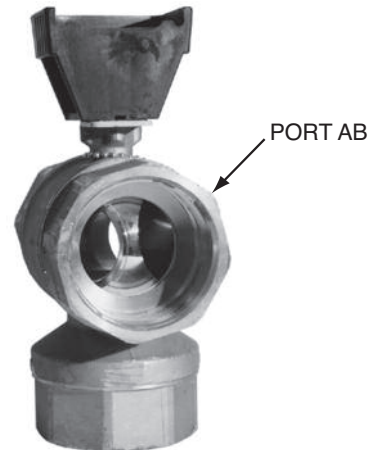
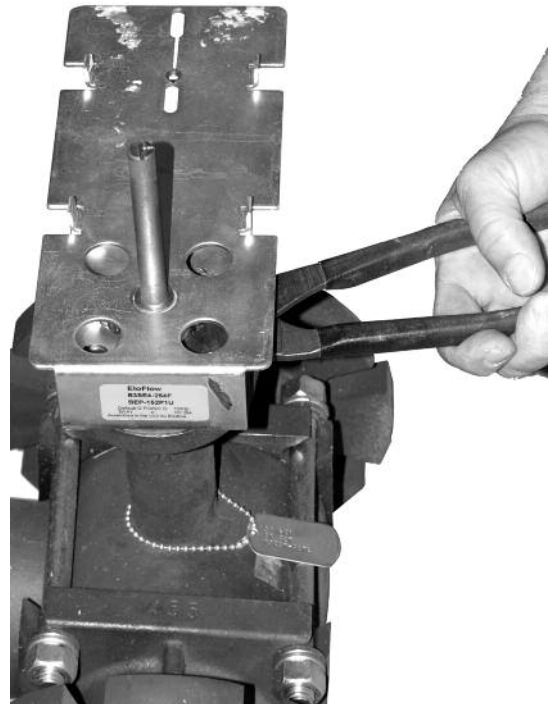

Fig. 18: Verifying Ball Position
Fig. 24: Rotating the Drive Linkage
- Once you can see two openings, **STOP**, as shown in Fig. 18. Then rotate the stem counterclockwise until only one opening remains e.g. you can see completely through the valve (through ports A and AB).
Now the ball position must be verified. Using pliers, grasp the base of the drive linkage. While looking into port AB, rotate the drive linkage counterclockwise about 45 degrees. See Fig. 24. You should see two partial openings similar to Fig. 18.